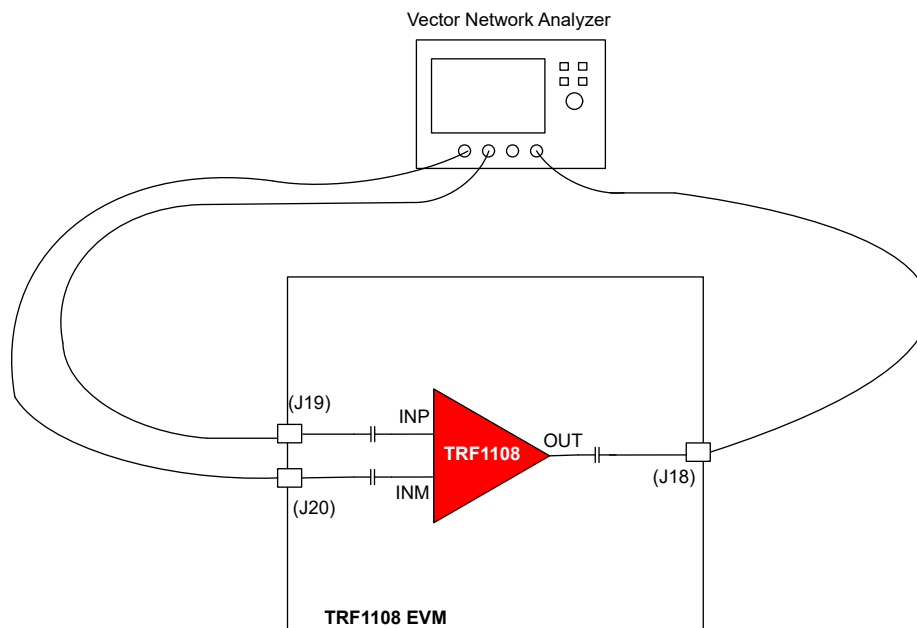

Figure 3-1. S-Parameter Test Setup
1. As Figure 3-1 shows, the S-parameter measurement is typically done using a Vector Network Analyzer (VNA). For measuring the TRF1108 EVM, a 3-port VNA is recommended which can generate differential and receive single-ended signals at the input and output ports of EVM respectively.